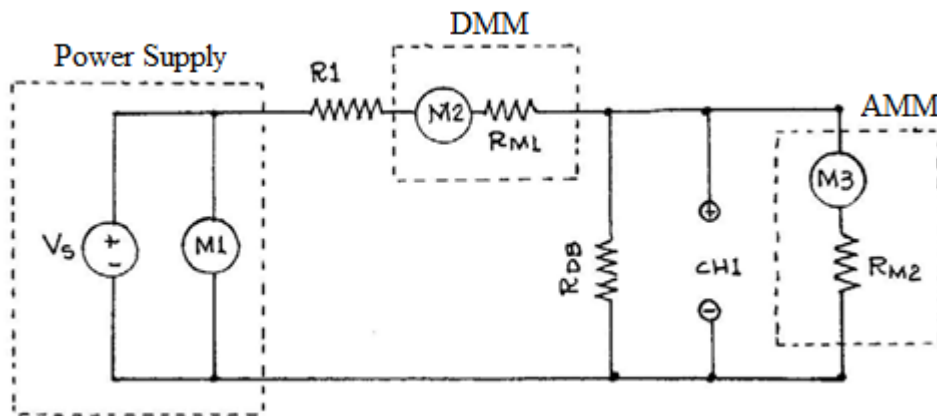

Figure 3: Using R_{DB} as a shunt.
- To understand how shunts work, connect the following circuit (Figure 3).
The circuit shown in Figure 3 can also be used to determine the internal resistance R_{M2} . Therefore, construct this circuit, set the analog multimeter on the 1 mA scale and set R_{DB} at approximately 400Ω . Record five sets of values for $M3$ (mA), $M1$ (V), $M2$ (mA), and $CH1$ (V) by adjusting the DC supply voltage so that $M3 = 1, 0.8, 0.6, 0.4,$ and 0.2 mA.